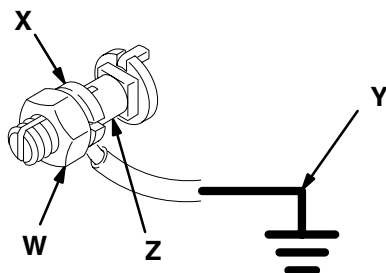

Fig. 1
- *Pump:* Use a ground wire and clamp, as shown in Fig. 1.